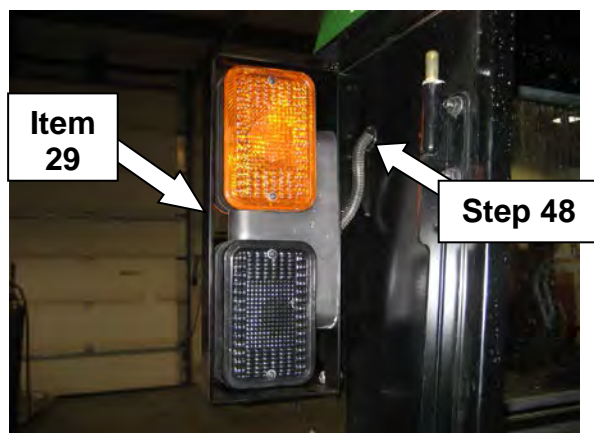
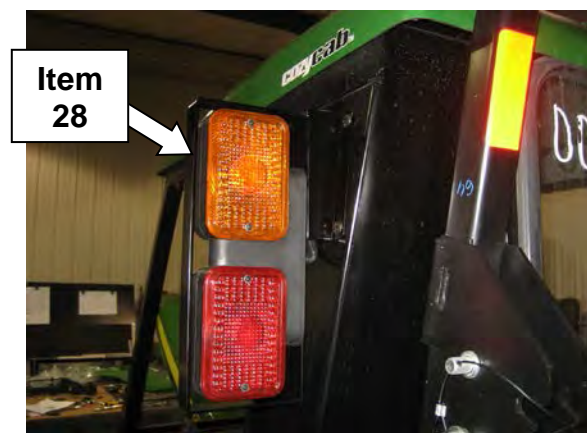

Figure 25
Figure 26
46. Mount RH flasher light to RH flasher mount bracket (29) (**Figure 25**). Secure using;
- (2) 5/16" lock washers (W)
47. Secure RH flasher light with bracket to RH rear side of cab (**Figure 25**) by using;
- (2) 5/16" flange nuts (A)
48. Route wires from flasher light thru universal grommet to the inside of cab (**Figure 25**).
49. Locate flasher wire extension harness (30). Tractors with dual flasher lights, match and reconnect all four wire colors from dual flasher lights to the original wire connections. Note; Tractors with single flasher lights, match wire colors, using three of the four wires, from single flasher lights to the original wire connections (**One of the dark green wires will not be used**).
50. Secure loom using nylon ties (T).
51. Repeat steps 46 thru 50 using LH flasher mount bracket (28) onto LH side of cab (**Figure 26**).